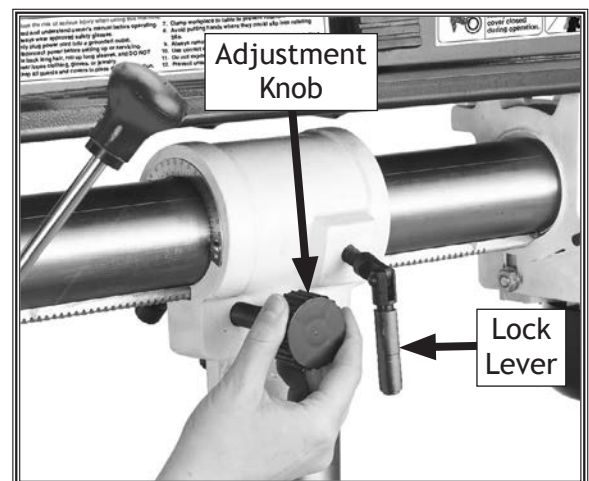

Figure 36. Headstock slide controls.
1. Loosen the lock lever located on the left side of the headstock (see **Figure 36**).
2. Turn the adjustment knob, as shown in **Figure 36**, to move the headstock back and forth the to desired position. Tighten the lock lever before operating the machine.